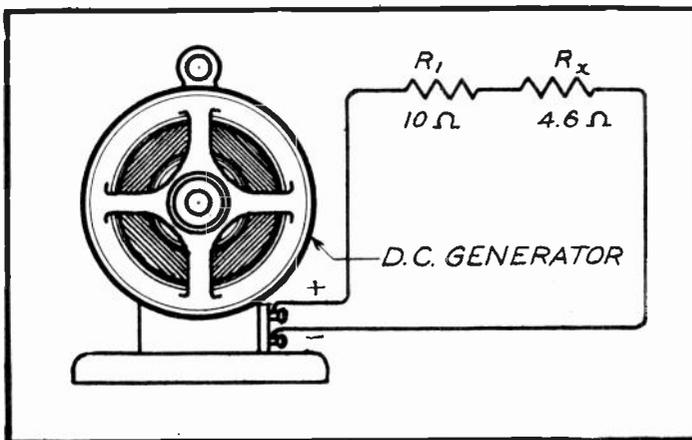
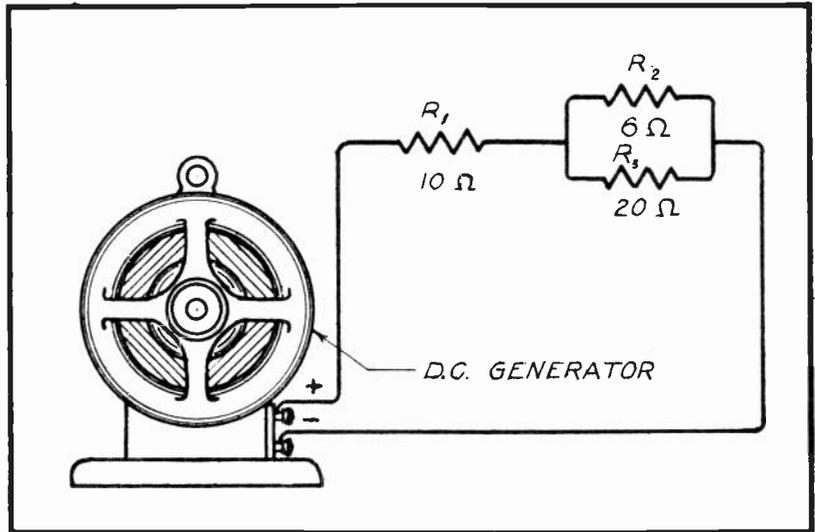
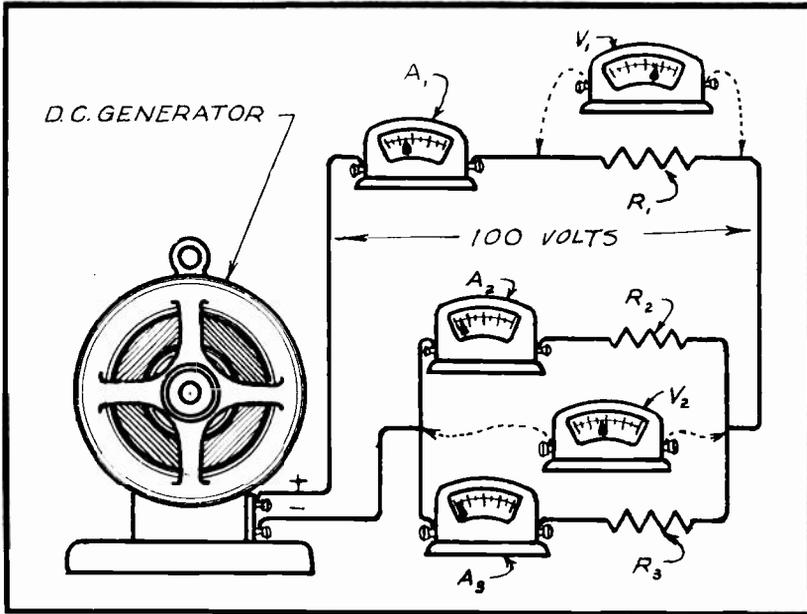

FIG. 18
FIG. 17
FIG. 19
IN FIG. 17 YOU ARE SHOWN A TYPICAL SERIES-PARALLEL COMBINATION OF RESISTAN-
SHOWN IN FIG. 18. THE TOTAL RESISTANCE OF THE CIRCUIT IN FIG. 18 IS EQUAL TO 10 OHMS PLUS 4.6 OHMS, OR 14.6 OHMS, WHICH IS ALSO EQUAL TO THE COMBINED RESISTANCE OF THE CIRCUIT ILLUSTRATED IN FIG. 17.
THE CIRCUIT OF FIG. 17 CAN BE STILL FURTHER ANALYZED IN THE FOLLOWING MANNER: KNOWING THE TOTAL RESISTANCE OF THE CIRCUIT TO BE 14.6 OHMS, AND ASSUMING THE GENERATOR TO PRODUCE AN E.M.F. OF 100 VOLTS, WE CAN DETERMINE THE TOTAL CURRENT FLOW THROUGH THE CIRCUIT BY APPLYING OHM'S LAW IN THE FORM  $I = E/R = \frac{100}{14.6} =$
6.85 AMPS. THIS CURRENT FLOW WILL BE INDICATED BY AMMETER  $A_1$  IN FIG. 19, WHERE WE HAVE THE SAME CIRCUIT AS IN FIG. 17 BUT WITH AMMETERS AND VOLTMETERS INSTALLED AT SUITABLE POINTS.
THAT IS TO SAY, IN THE CIRCUIT OF FIG. 18 THE COMBINED RESISTANCE OF  $R_2$  AND  $R_3$  IS FOUND AS FOLLOWS:
THE ANALYSIS AS GIVEN FOR FIGS. 17 TO 21 INCLUSIVE CAN BE APPLIED IN THE SAME MANNER, WHETHER THE VOLTAGE SUPPLY BE FURNISHED BY A D.C. GENERATOR AS SHOWN, BY A BATTERY, OR BY THE OUTPUT OF A B SUPPLY'S FILTER CIRCUIT.